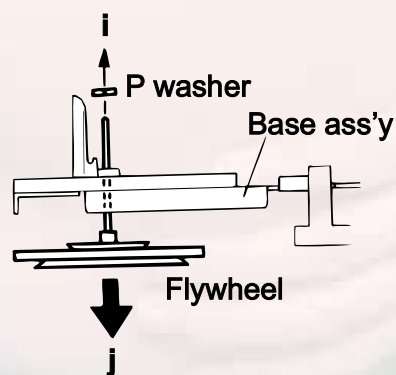

Fig.7
■ **Flywheel assembly** (Fig.7)